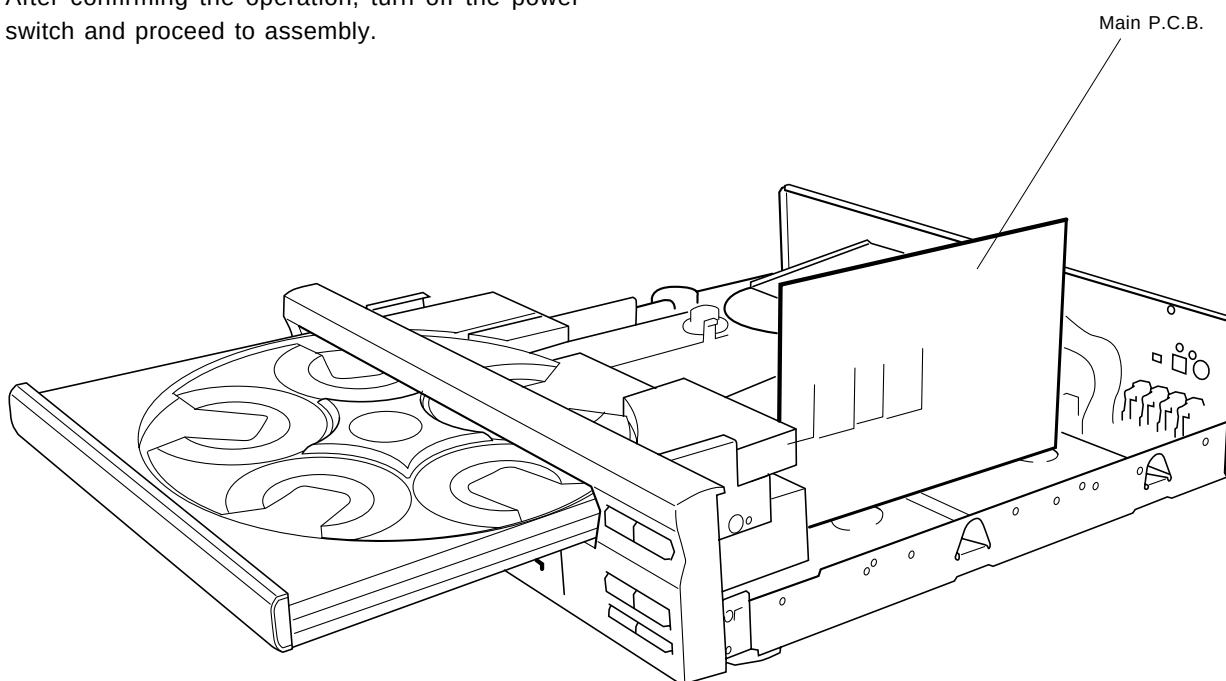

Fig. 14
- h. Set the Main P.C.B upright as shown in Fig. 14.